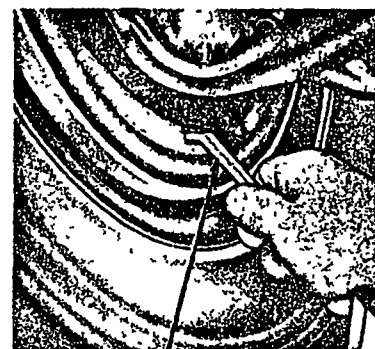

FIG. 5—Expanding Brake Shoes
2. Remove the adjusting hole cover from the carrier plate and, from the carrier plate side, turn the adjusting screw upward to expand the shoes (Fig. 5). Expand the shoes until a drag is felt when the drum is rotated.